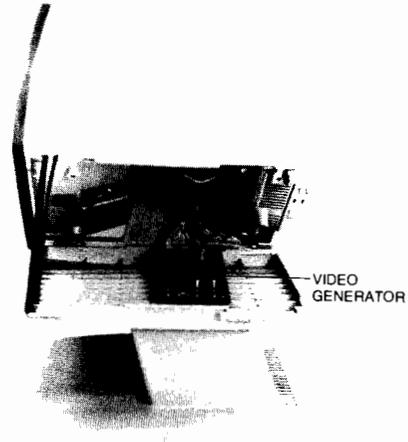

Figure 6-9. Video Generator Installed in Place of the Processor PCA
3. Install the Video Generator in place of the Processor PCA (figure 6-9) and connect the power and sweep cables to J1 and J2, respectively, on the Video Generator.